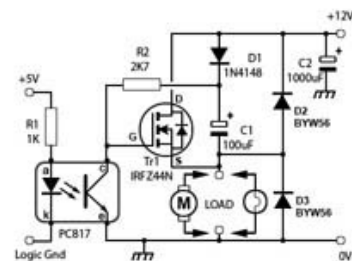

Fig.4.7.5
9. In the circuit shown in Fig.4.7.5, what is the purpose of C1?